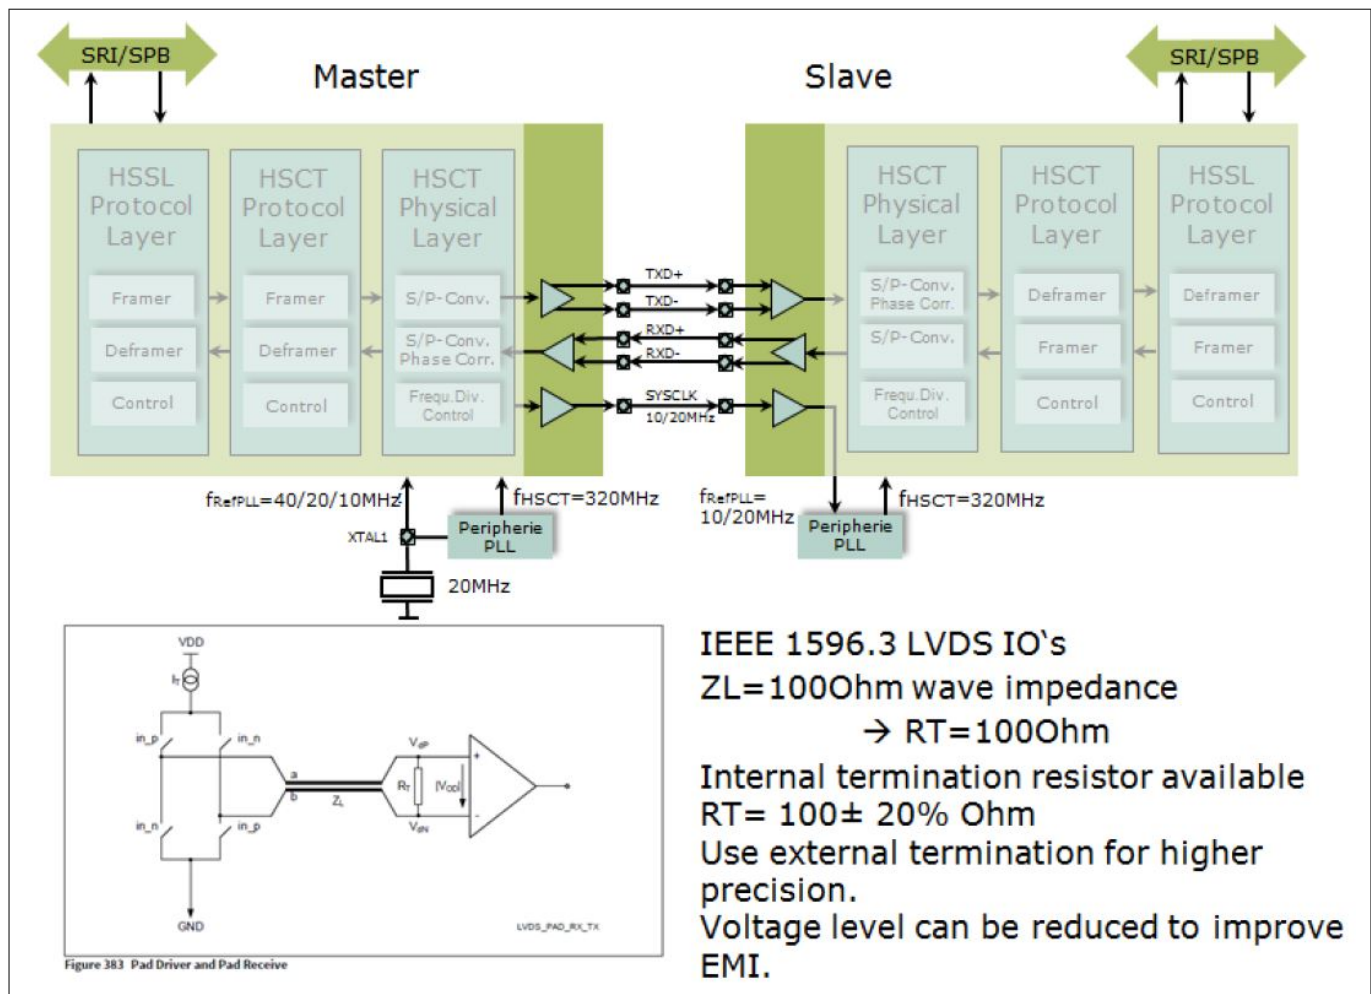

Figure 5 Default HSCT/HSSL configuration, with master and slave at the same supply
- Figure 5 Default HSCT/HSSL configuration, with master and slave at the same supply